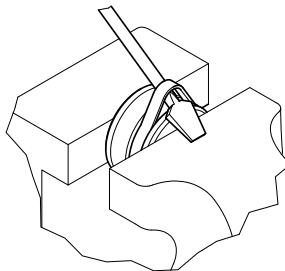

Figure 5-5, Piston Seal
9. Carefully pry up on the piston seals using a blunt tip screw driver being careful not to scratch the seal grooves. Cut the seals to remove from the piston. (Figure 5-5)